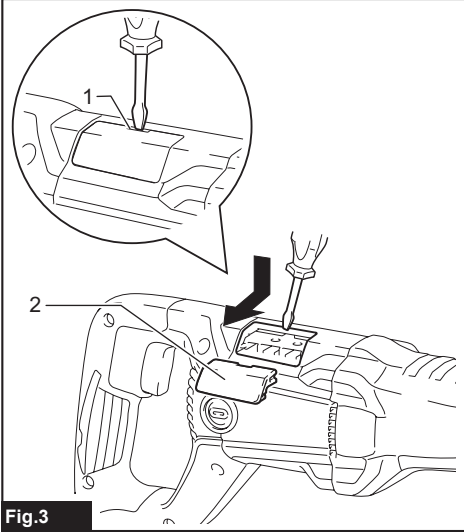

Fig.3
▶ **Fig.3:** 1. Notch 2. Cover